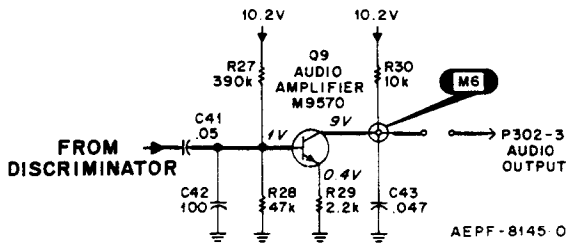

Figure 10. Typical Audio Amplifier Stage
e. Audio Amplifier Stage (Refer to Figure 10)